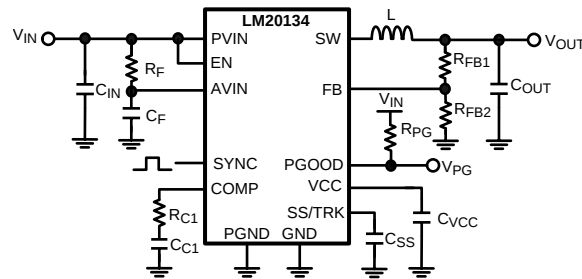

Figure 3. Typical Application Circuit
The LM20134 switching regulator features all of the functions necessary to implement an efficient low voltage buck regulator using a minimum number of external components. This easy to use regulator features two integrated switches and is capable of supplying up to 4A of continuous output current. The regulator utilizes peak current mode control with nonlinear slope compensation to optimize stability and transient response over the entire output voltage range. Peak current mode control also provides inherent line feed-forward, cycle-by-cycle current limiting and easy loop compensation. The internal oscillator can synchronize up to 1.5 MHz minimizing the inductor size while still achieving efficiencies up to 96%. The precision internal voltage reference allows the output to be set as low as 0.8V. Fault protection features include: current limiting, thermal shutdown, over voltage protection, and shutdown capability. The device is available in the eTSSOP-16 package featuring an exposed pad to aid thermal dissipation. The LM20134 can be used in numerous applications to efficiently step-down from a 5V or 3.3V bus. The typical application circuit for the LM20134 is shown in Figure 3 in the design guide.
This section walks the designer through the steps necessary to select the external components to build a fully functional power supply. As with any DC-DC converter numerous trade-offs are possible to optimize the design for efficiency, size, or performance. These will be taken into account and highlighted throughout this discussion. To facilitate component selection discussions the circuit shown in Figure 3 below may be used as a reference. Unless otherwise indicated all formulas assume units of amps (A) for current, farads (F) for capacitance, henries (H) for inductance and volts (V) for voltages.
To prevent high frequency noise spikes from disturbing the sensitive analog circuitry connected to the AVIN and AGND pins, a high frequency RC filter is required between PVIN and AVIN. These components are shown in Figure 3 as C_F and R_F . The required value for R_F is 1Ω. C_F must be used. Recommended value of C_F is 1.0 μF. The filter capacitor, C_F should be placed as close to the IC as possible with a direct connection from AVIN to AGND. A good quality X5R or X7R ceramic capacitor should be used for C_F .